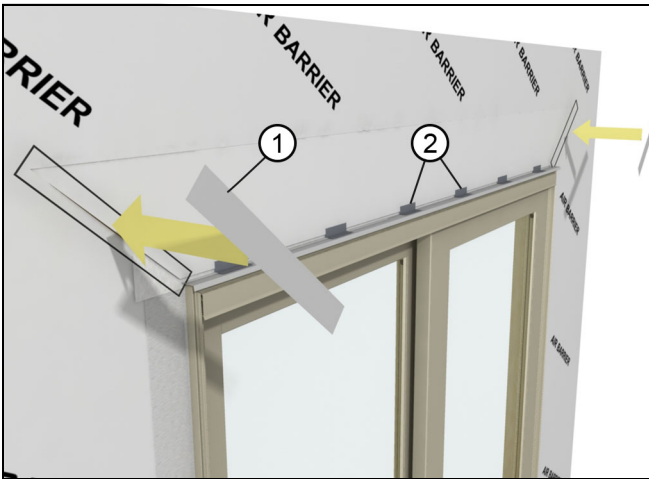

Figure 58
5. Fold the head jamb air barrier down over the head jamb flashing. Apply seam seal tape over the diagonal cut in the air barrier. Make sure the tape laps onto the unit or casing. Cut 3" (76) strips of tape and install every 12" (305) along the head jamb. Tape and seal any seams and fasteners directly above the unit. See Figure 58.